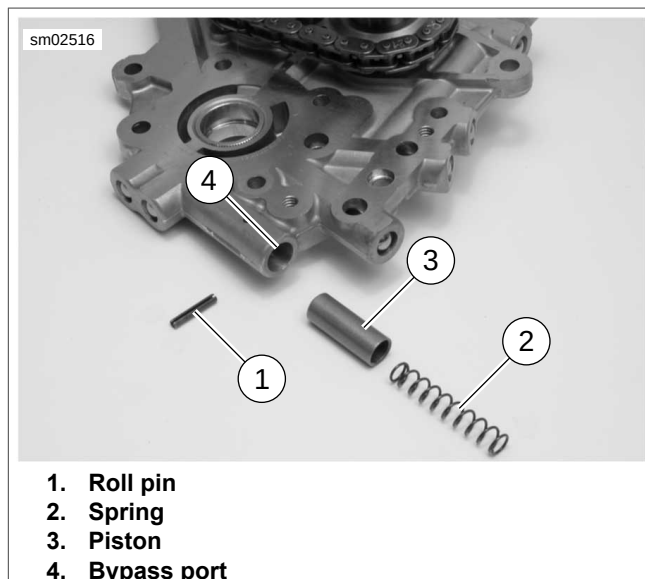

Figure 3-101. Oil Pressure Relief Valve Assembly
1. See Figure 3-101. Secure the cam support plate in a vise with soft jaws.
3. Use a 1/8 in. punch to remove roll pin (1). Discard roll pin.
4. Remove spring (2) and piston (3) from bypass port.
2. See Figure 3-101. Lubricate piston (3) with SCREAMIN' EAGLE ASSEMBLY LUBE. Slide piston into bypass port of cam support plate with the open side facing outward.
3. Slide spring (2) into bypass port until seated in piston.
4. Start **new** roll pin (1) into hole in cam support plate. Compress spring using the blade of a small screwdriver.